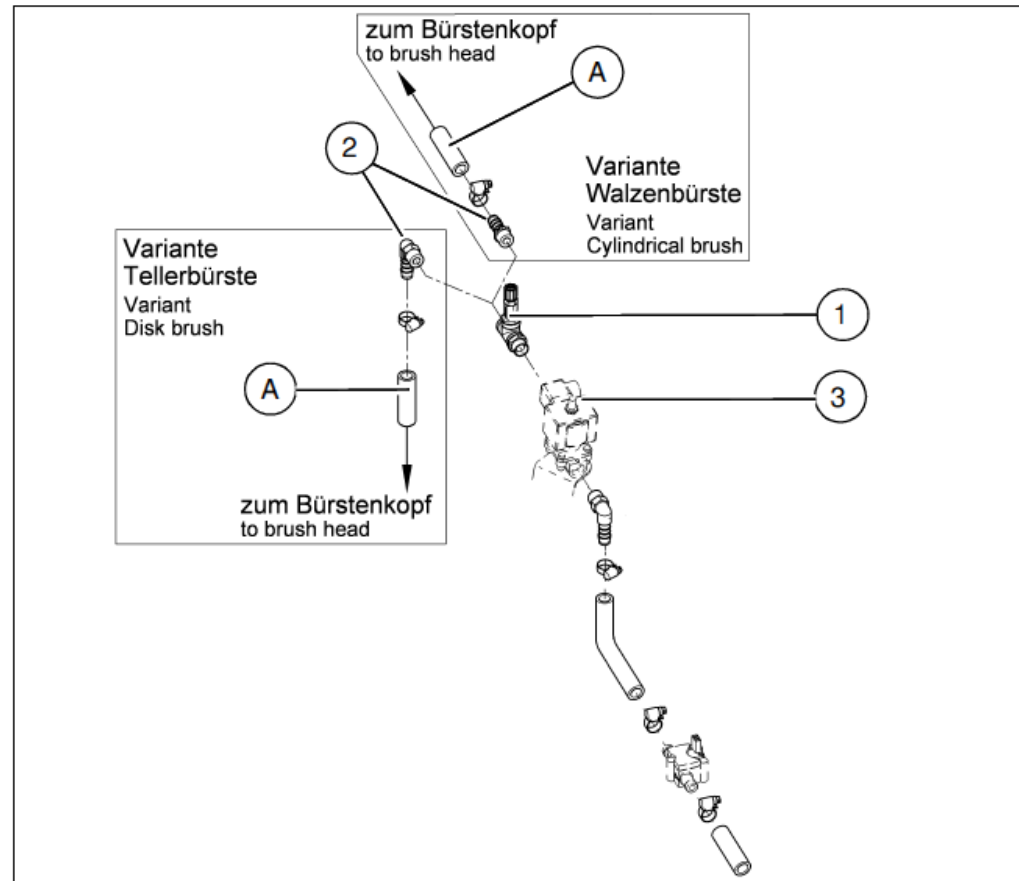

Fig. 4
1. Preassemble the non-return valve (Fig. 4/1) with screw-in sockets (Fig. 4/2) and double nipple.
2. Assemble the non-return valve on the relief valve (Fig. 4/3). Max. tightening torque is 1 Nm!
3. Shorten the water hose (Fig. 4/A) between the brush head and non-return valve according to the length specification in the table and install it using hose clamps.